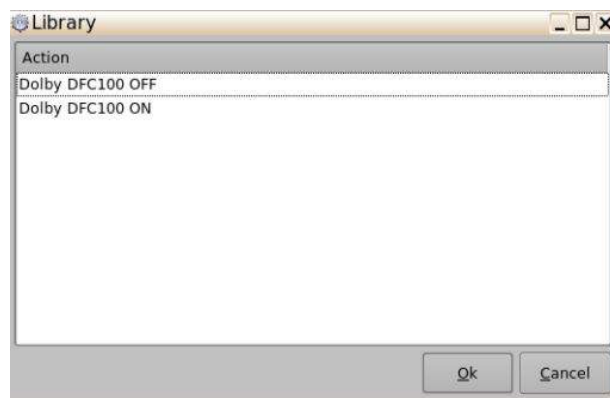

Figure 23: Library Action Window – Dolby DFC100
- The user can select the actions to manage Dolby products on the Library window (Figure 23).